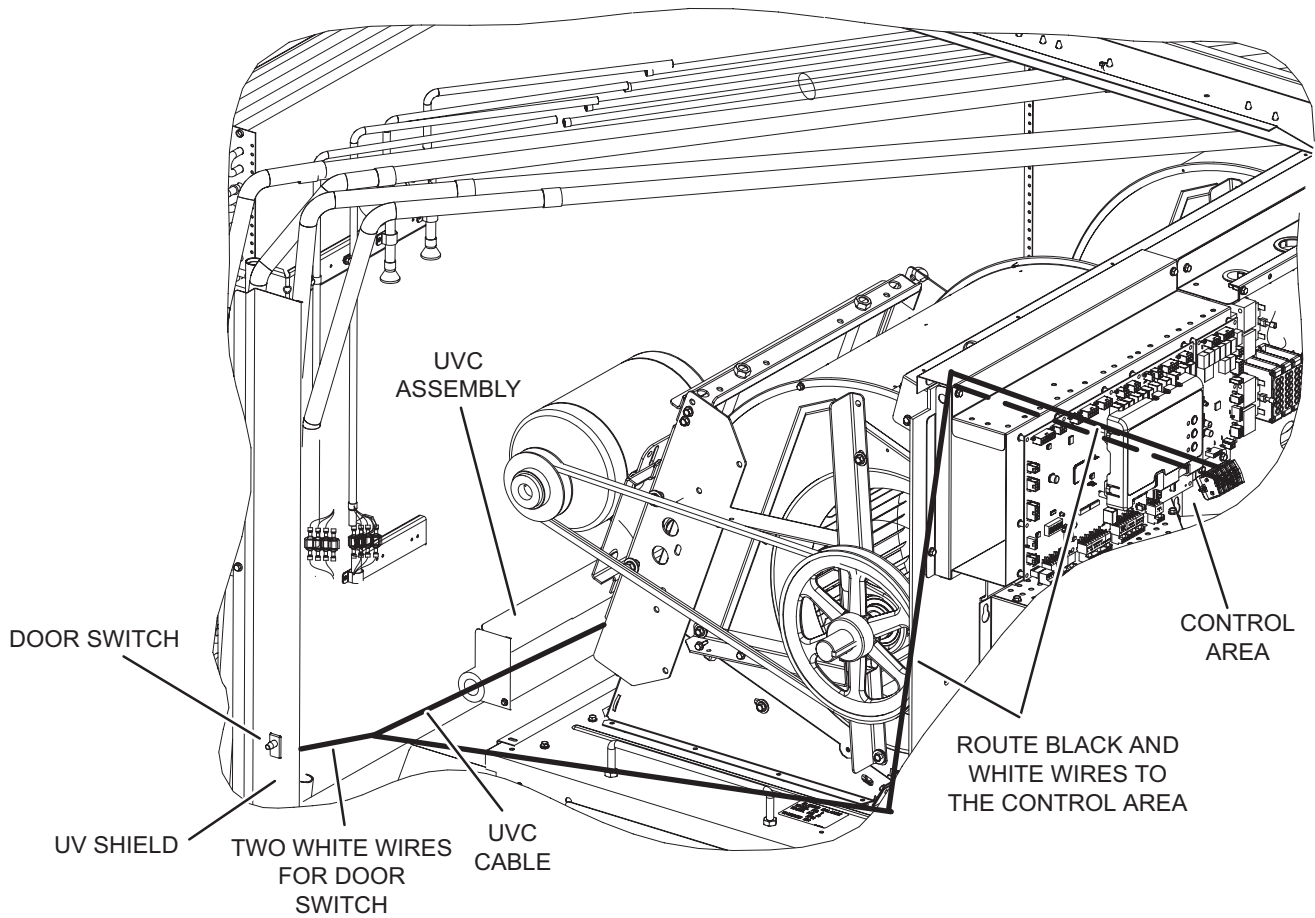

FIGURE 4
- 2 - Route the power cable wires as shown in FIGURE 4.